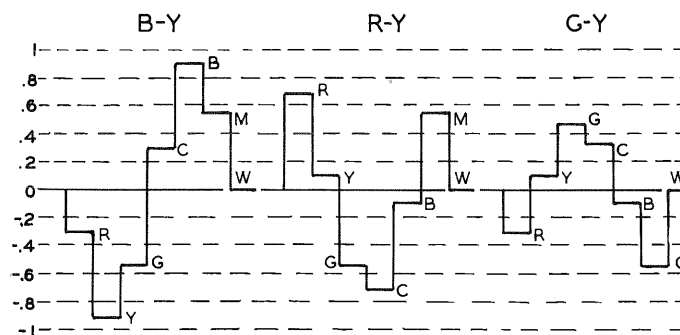

FIG. 7
- Adjust A18 for correct R-Y response for the color bar generator being used. (See Fig. 7).